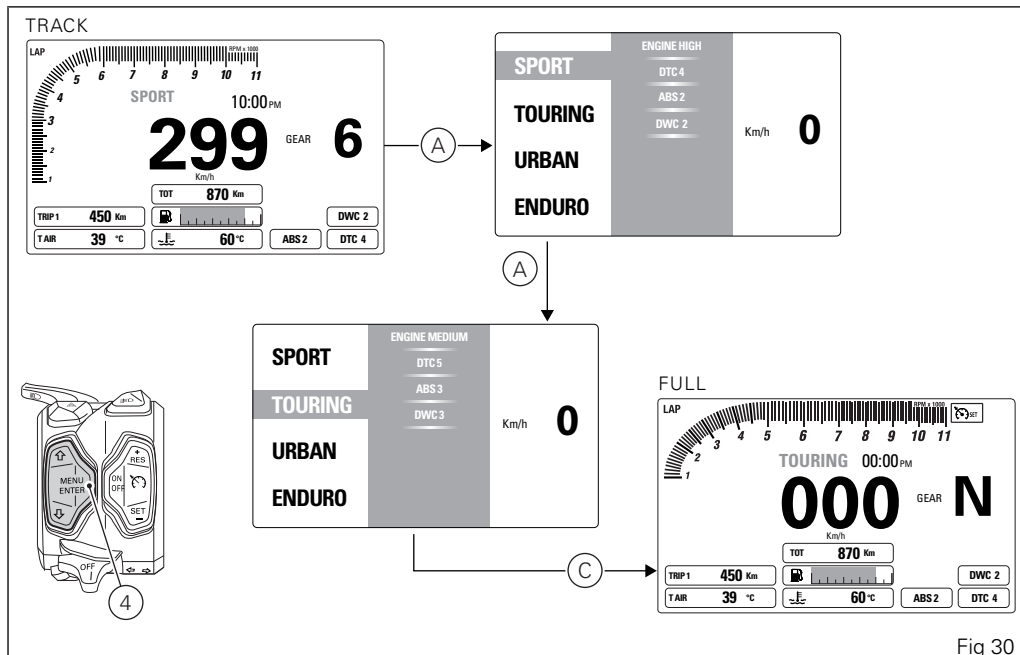

Fig 30
Once the desired riding mode (A, Fig 30) is highlighted, confirm the selection by holding down the CONFIRM MENU button (4) for 2 seconds: the new riding mode selection is stored and the standard screen (C, Fig 30) is displayed for the selected riding mode.